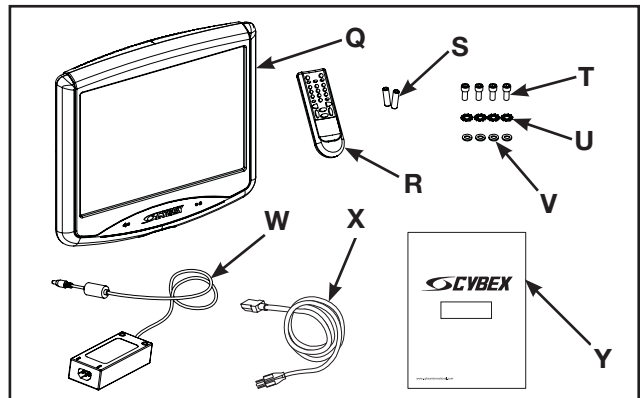

Figure 2
3. Verify monitor kit contents shown in Figure 2.
- Q. Monitor (1), EE000005 or EE000007
- R. Remote control (1), EM000000
- S. Batteries, remote control, AAA size (2), N/A
- T. Screws, mounting, M4 x 0.7 x 10 mm (4), HC692860
- U. Washers, external lock, (4), HS047300
- V. Washers, flat, M4 (4), HS097600
- W. AC/DC adapter (1), ET300038
- X. Power cord, 115 VAC 60 Hz, (Country specific cords supplied with product), (1), EW600000
- Y. Personal Entertainment Monitor Manual (1), LT-20191